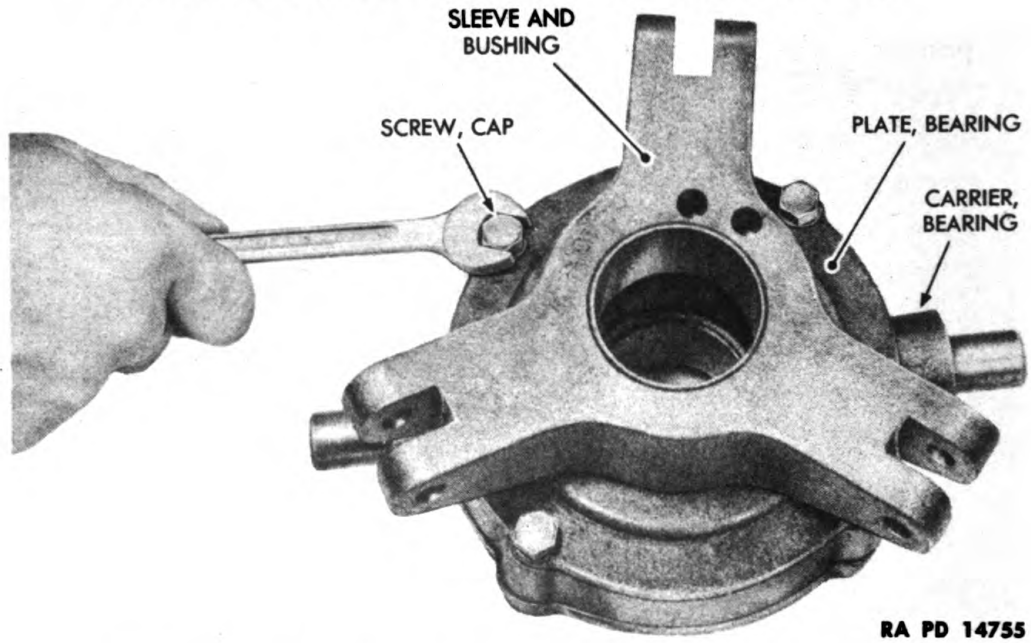

Figure 24 – Bearing Carrier Removal from Bearing Plate
(12) REMOVE BEARING CARRIER FROM BEARING PLATE (fig. 24).
(8) **INSTALL BEARING CARRIER** (fig. 24).